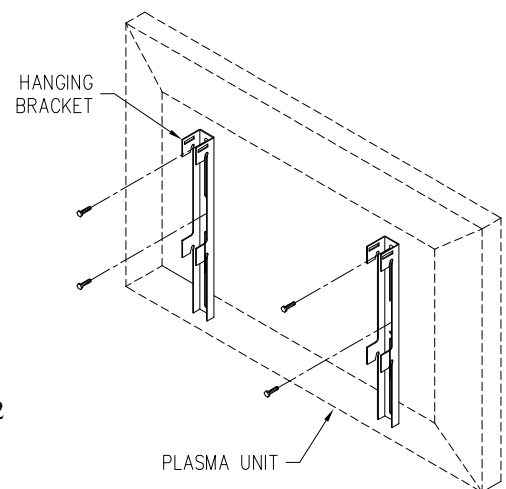

Figure 2
1. Mount the Hanging Brackets to the back of the Plasma unit utilizing all the fastener points recommended by the plasma manufacture. See Figure 2.